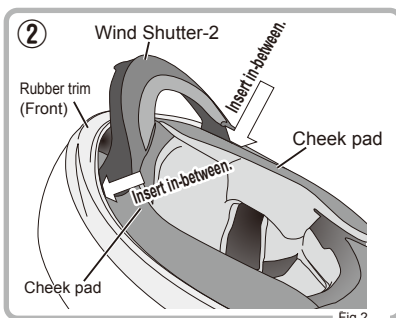

Fig.2
- ② Insert the interlining and the joint hooks carefully into the attachment slits from the centre to the side, as shown in Fig.2. Follow the same procedure on the other side.
- ③ Fasten 3 snaps at the rear to attach the inner pad completely.
② As shown in Fig. 2, turn the helmet over and attach the Wind Shutter on the front (chin area) of the helmet. In doing this, insert the interlining of both sides of the Wind Shutter in-between the front area of the cheek pad and the rubber trim.